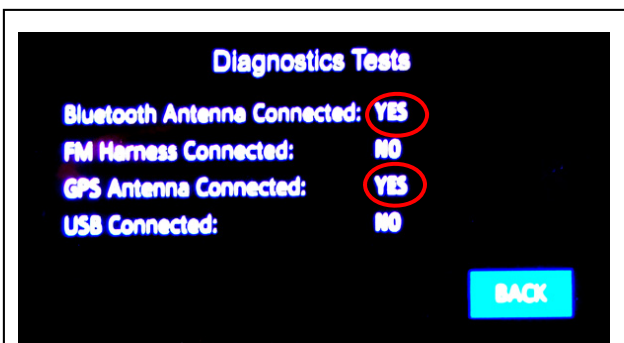

Fig. 12-5
- (e) Confirm the following connections are displayed (Fig. 12-5).